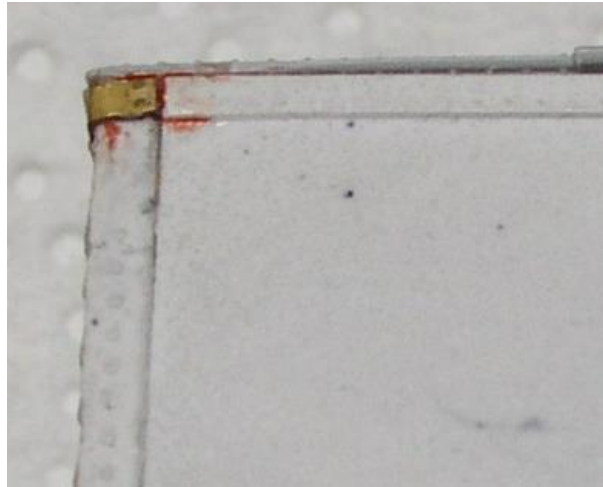

Figure BD6
- Find the upper corner brackets and fold them so that the rivets line up with the vertical rivet line on the sides of the ends. There are two sizes so you can fit which ever fits better. Glue them in place. See Figures BD5 and Figure BD6.